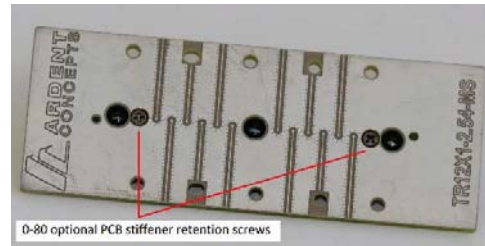

Figure 4: Mounting the Stiffener Block with Retention
- NOTE: At this stage, optional 0-80 screws may be used to secure the stiffener to the PCB. If these screws are used, it is vitally important that the screw heads be recessed or below the top metal mounting plane (See Figure 4).